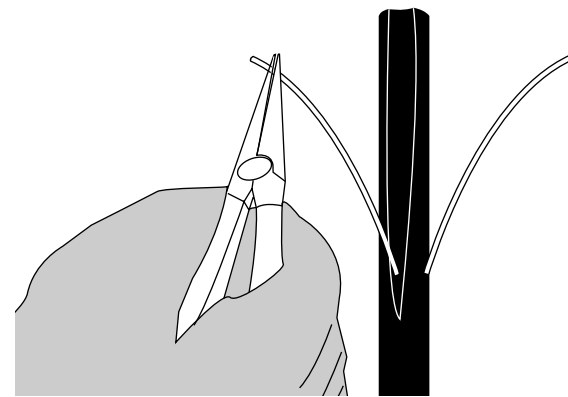

Figure 5
4.4 Using needle nose pliers, bend the steel rods away from the cable (Figure 5). **TAKE CARE TO AVOID ACCIDENTAL INJURY FROM CONTACT WITH THE ENDS OF THE RODS.**